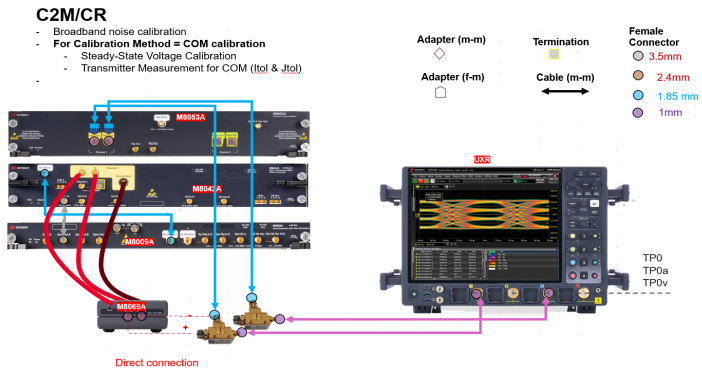

Figure 26 Connection diagram for CR COM Calibration
- 3 Calibrate the pattern generator amplitude and jitter components using the test setup shown in Figure 26.
These measurements (especially the amplitude calibration) should be performed at the output of the coupler as shown in Figure 26. Doing so will implicitly include the coupler in the transmitter, ensuring proper accounting for the coupler loss in the system. Consequently, the test channel specified in the field (Test Channel S-parameter) should be the ISI trace without the coupler.
- 4 Calibrate the broadband noise source using the test setup shown in Figure 26.
Similarly to the previous step, Keysight recommends calibrating the broadband noise at the output of the coupler as illustrated Figure 26. Consequently, the noise channel specified in the field (Noise Channel S-parameter) should be the lossless ThroughPath.s4p file available in the installation folder.